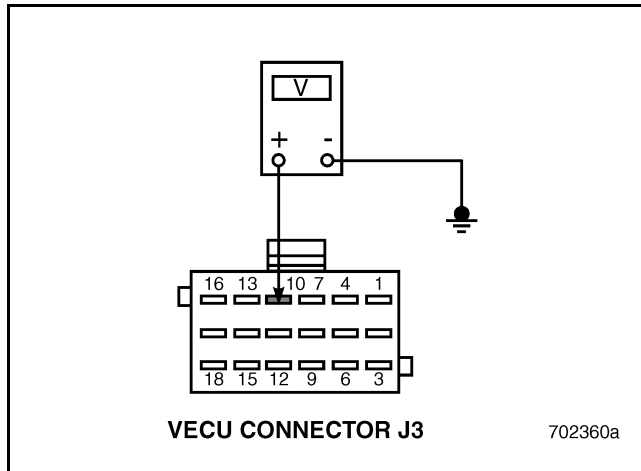

Figure 481
4. Measure the voltage between VECU connector J3 pin 10 and a good ground (see Figure 481).